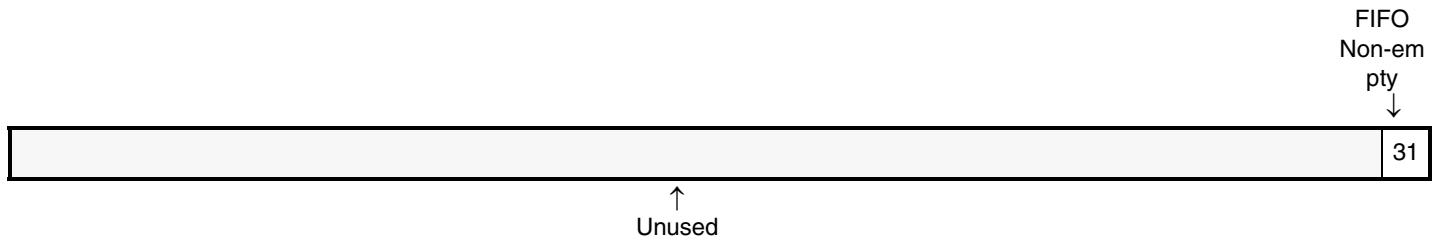

Figure 3: Interrupt Status and Interrupt Enable Registers
3. The bit mapping is shown in Figure 3.
analog signal being sampled. The mapping of this interrupt to the IPIER and IPISR is shown in Figure 3. Table 6 and Table 7 shows the bit definitions for IPISR and IPIER.